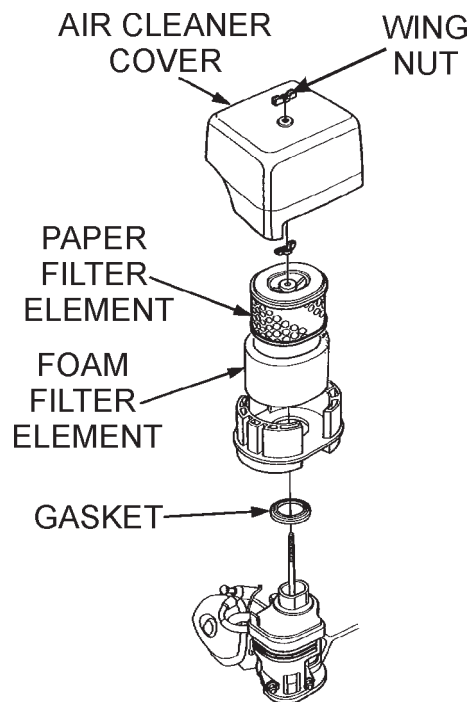

Figure 26. Engine Air Cleaner
1. Remove the air cleaner cover and foam filter element as shown in Figure 26.
2. Tap the paper filter element (Figure 26) several times on a hard surface to remove dirt, or blow compressed air [not exceeding 30 psi (207 kPa, 2.1 kgf/cm²)] through the filter element from the air cleaner case side. **NEVER** brush off dirt. Brushing will force dirt into the fibers. Replace the paper filter element if it is excessively dirty.